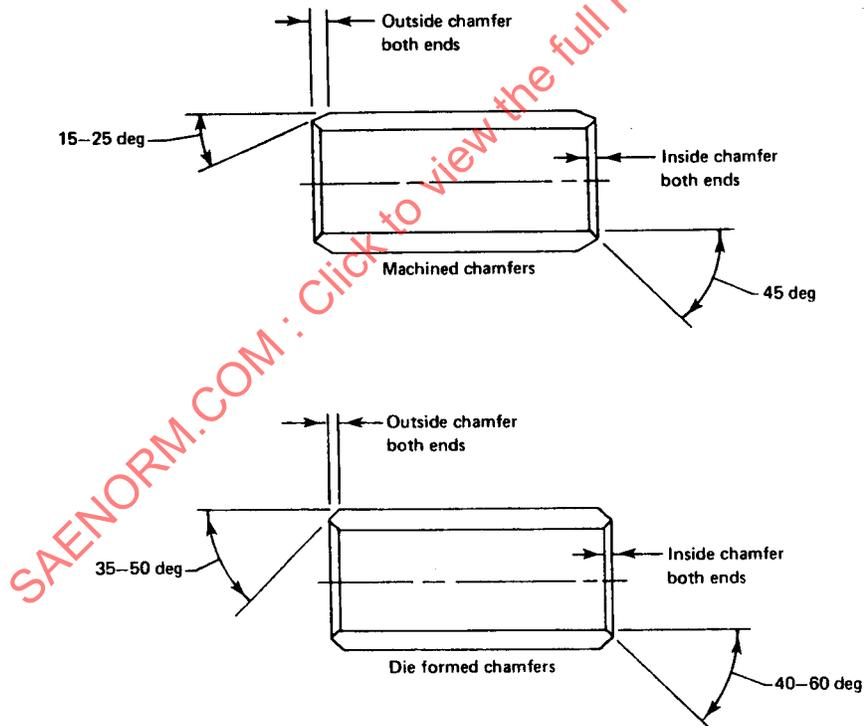

FIGURE 2—CHAMFERS
3.5 Chamfers—(See Figure 2 and Table 4.)